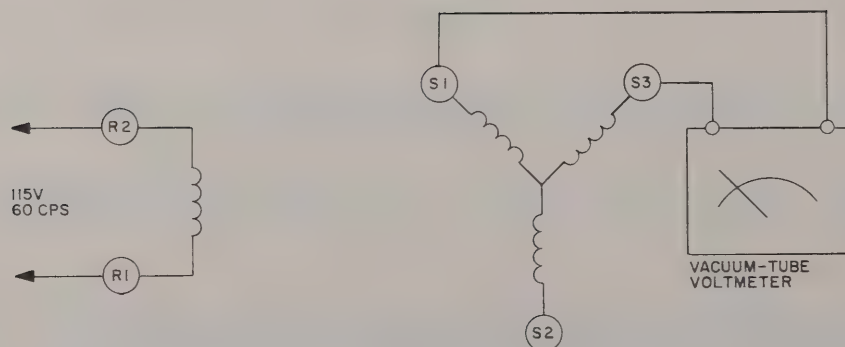

Figure 3-2. Test Transmitter Fine Zeroing Hookup
- c. Without rotating the transmitter shaft, reconnect the transmitter and the vacuum-tube voltmeter as shown in Figure 3-2.